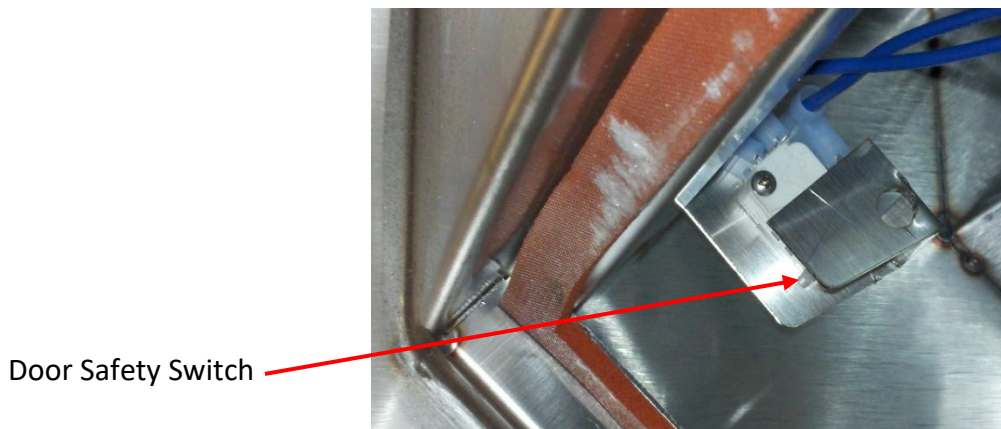
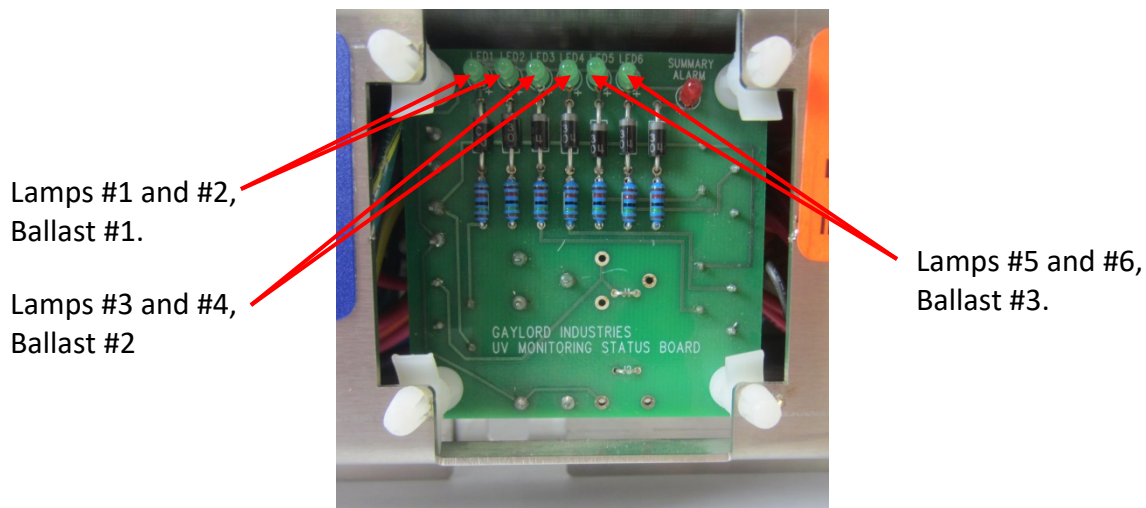

Figure 6-18-1
Figure 6-19-1
32. Push and hold in the Door Safety Switch (Refer to Figure 6-18-1) and look at the UV Monitoring Status Board (Refer to Figure 6-19-1). There is one green light for each of the six Lamps and the light on the left is for Lamp #1 and on the right is for Lamp #6. If all the green lights are on the UV Lamps are operating correctly and the test is complete. If one or more lights are off, the red light will be on indicating that the wiring to that specific Lamp has a problem, such as a bad connection etc.